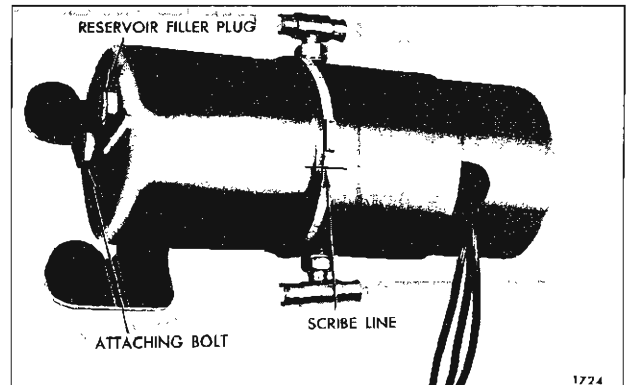

Fig. 13-60—Motor and Pump Assembly - All 67 Styles Except "Z" Body
2. Scribe a line across pump end plate and reservoir tube to insure a correct assembly of parts. See Figure 13-60.